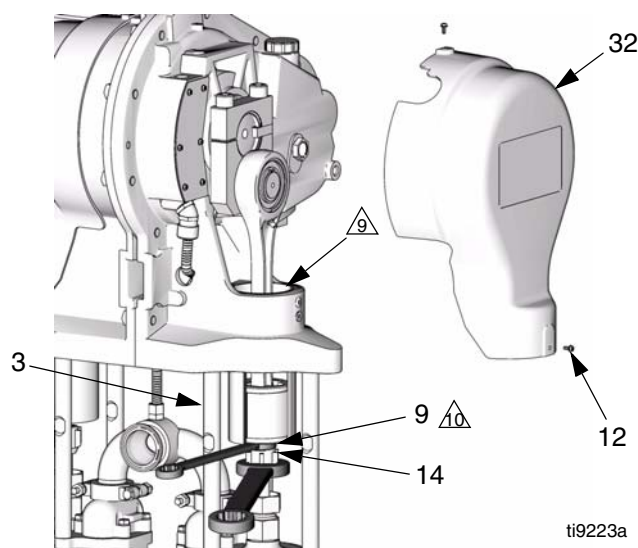

FIG. 3. Remove Coupling Nut
2. Jog the motor to bring the lower on the side being repaired to the bottom of its stroke. This provides access to the coupling nut (14).
4. See FIG. 3. Place a 3/4 in. wrench on the slider piston (9) flats (just above the coupling nut), to keep the slider piston/connecting rod from turning when you are loosening the coupling nut (14). Orient the wrench so it is braced against one of the tie rods (3). Applying excessive force to the slider piston/connecting rod can shorten the life of the lower pin bearing.
5. Using a 1-5/8 in. open-end wrench, unscrew the coupling nut (14) from the slider piston (9) and let it slide down onto the pump piston rod. Be careful not to lose the collars (13).